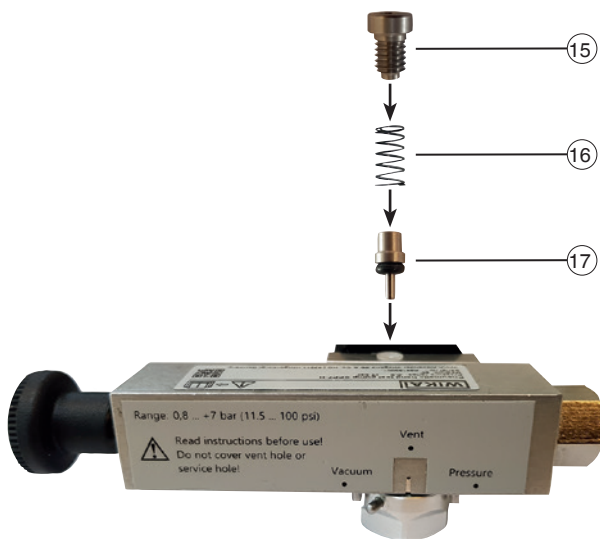

Fig. 1 - Inserting the non-return valve
- ▶ Pay attention to the correct order of the components (see Fig. 1 "Inserting the non-return valve")!
- ▶ Pay attention to the correct order of the components (see Fig. 1 “Inserting the non-return valve”)!
5. Re-close the opening (18) with the screw (15).